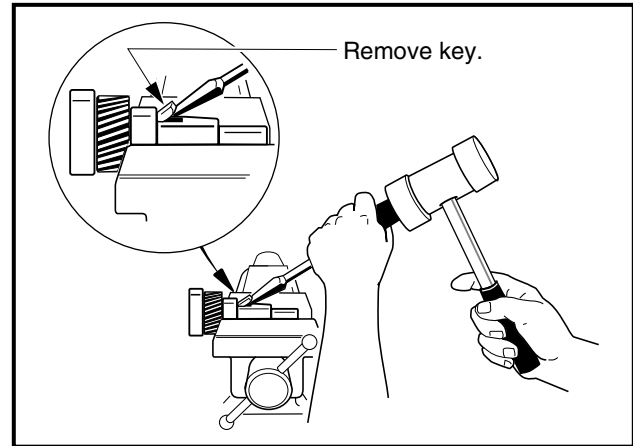

Figure 16b-15 Remove Key
8. Press the bearing (20) off the intermediate gear assembly (**Figure 16b-4, Page 16b-3**).